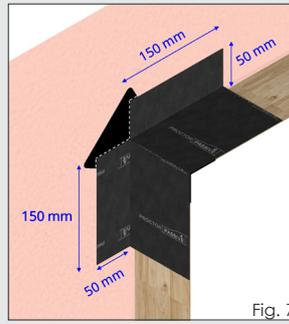

Fig. 7
**Fig. 7:** Cut a 300mm length of the DriFlash Tape and apply to the upper corners, ensuring the tape runs above the YouByute Flexi Tape. Use DriFlash Tape that is wide enough to allow for 50mm folds to the exterior face. Make a cut at the corner to allow the tape to split and form a corner piece. Using a squeegee, spread outwards to remove any air pockets. Repeat for the other top corner.